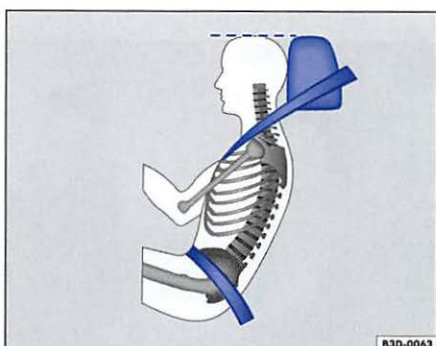

Fig. 14 Head restraint and safety belt position as seen from the side
- The lap belt portion of the safety belt must be positioned as low as possible across pelvis and never over the abdomen. Make sure the belt lies flat and snug ⇒ fig. 14. Pull on the belt to tighten if necessary.